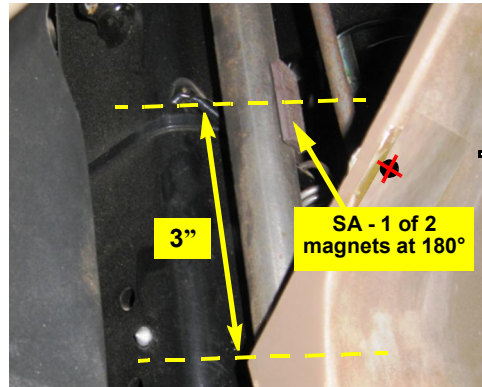

Figure 1c: Installed magnet(s)
- c. Using hardware **WF** (screw) and **WE** (nut), attach the WAS arm **WC** to the WAS assembly. Mount the arm in the opposite direction to the WAS wire connector **WB** (Figure 1c with inset).
Figure 1c with inset: WAS arm installed
- d. Clean magnet-size areas on two sides of the steering shaft, their centers 3" up from the corner of the shroud (Figure 1c). Using the two-part epoxy SB, attach magnets SA 180° apart on the steering shaft (with their centers 3" from the corner of the shroud - (Figure 1c).